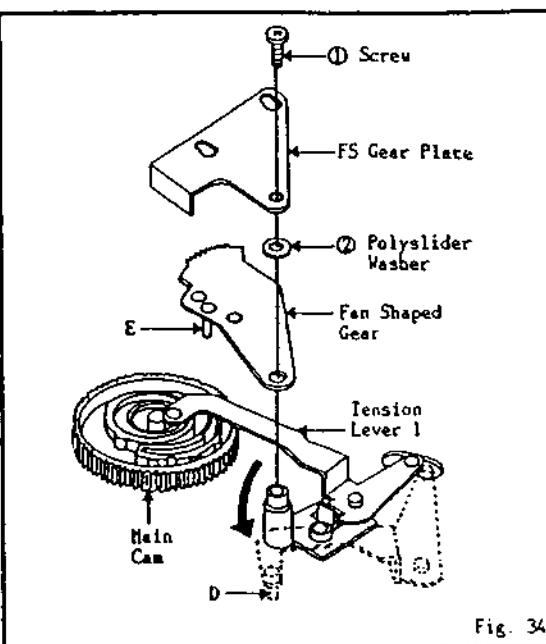

Fig. 34-a
1. Remove the screw ① held to the FS Gear Plate.
2. Remove the FS Gear Plate, the Polyslider Washer ② and the Fan Shaped Gear. (Fig. 34-a)
3. Remove the 2 pieces of stoppers ④, then pull the book ③ in the direction of the arrow to remove the Loading Motor. (Fig. 34-b)